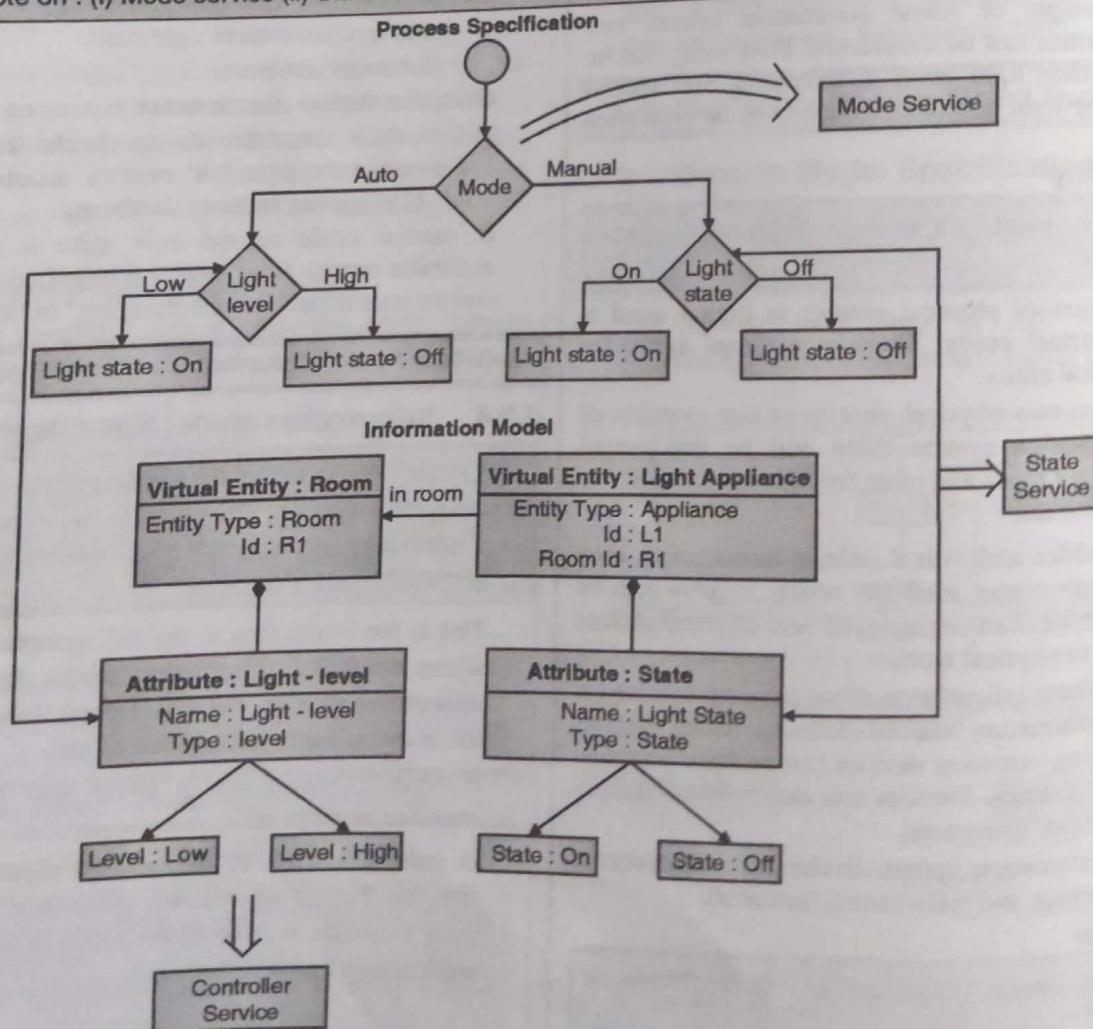

Fig. 2.2.5 : Service derivation from process specification and information model
- For our example of home automation system we have made process specification and designed information model. Fig. 2.2.5 shows derivation of services from process specification and information model.